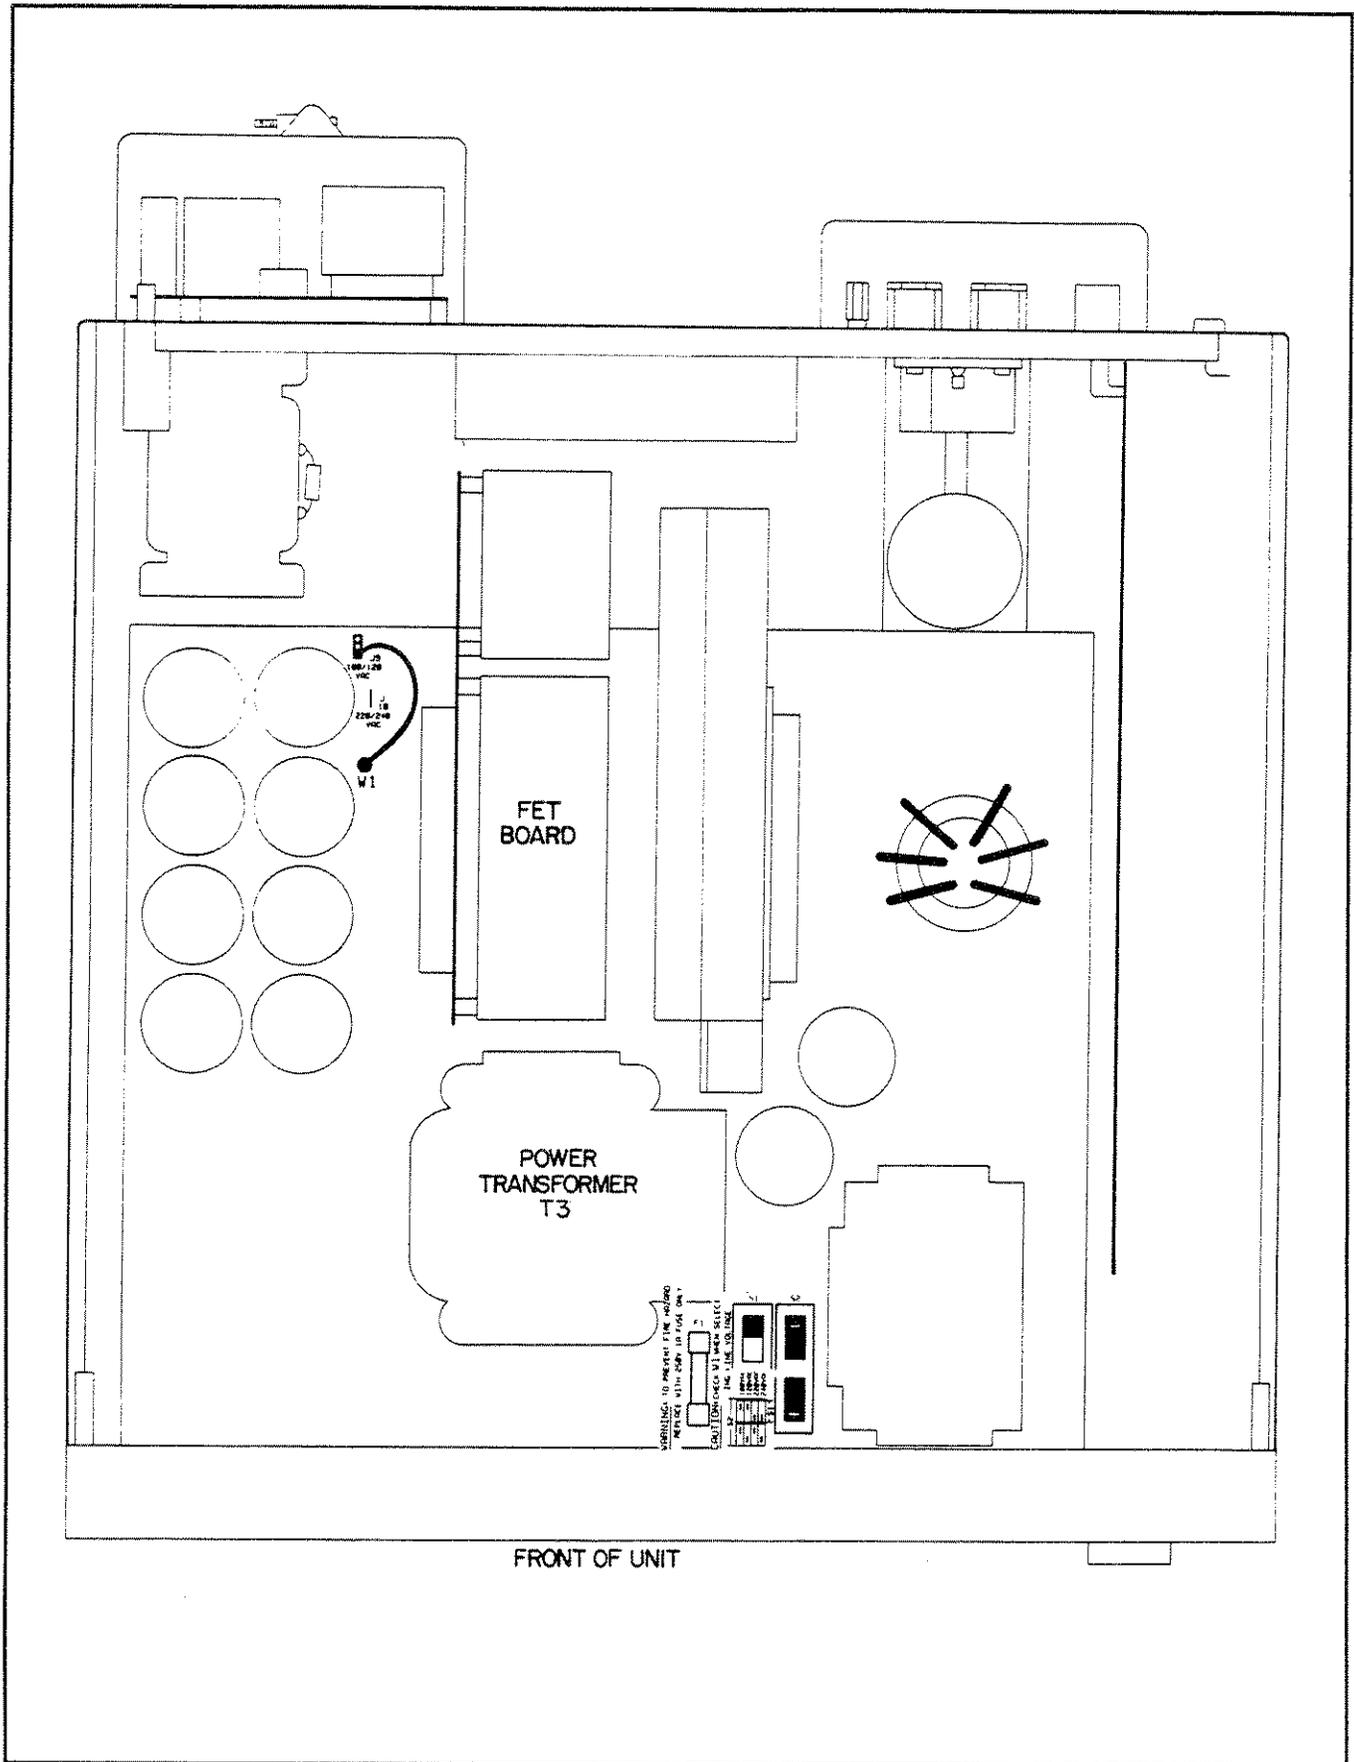

Figure 2-3. Line Voltage Conversion Components
- d. To select a line voltage setting, switch A1S1 is set identically with the setting of the lower half of A1S2 at all times. The settings of the upper and lower halves of A1S2 are selected to match the pattern silk-screened on the A1 board as shown in Figure 2-3. Use a small blade screw driver to set the switch positions of A1S2.